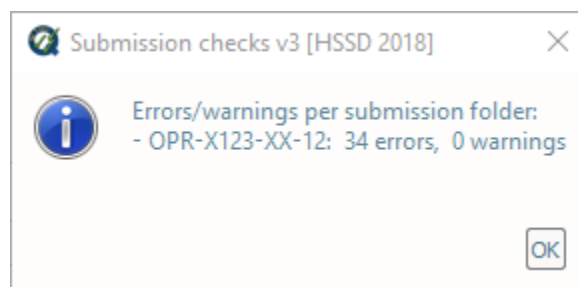

Fig. 2.36: The **Submission check** output message.
- After computing, the output window opens automatically, and the results are shown (Fig. 2.36).